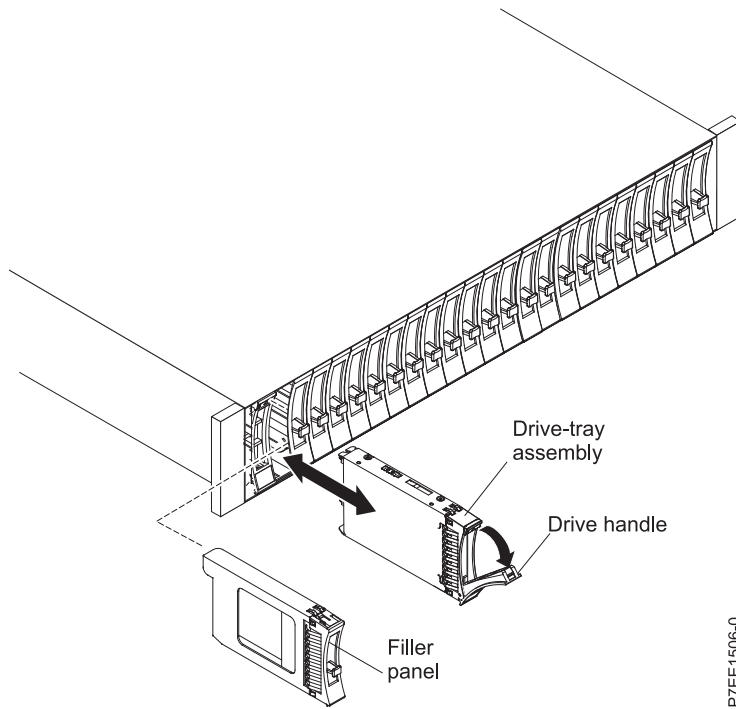

Figure 29. Removing a drive from the 5887 disk drive enclosure
4. Grasp the front of the drive and pull it out from the slot, ensuring that you support the bottom of the drive, as shown in Figure 29 on page 30.